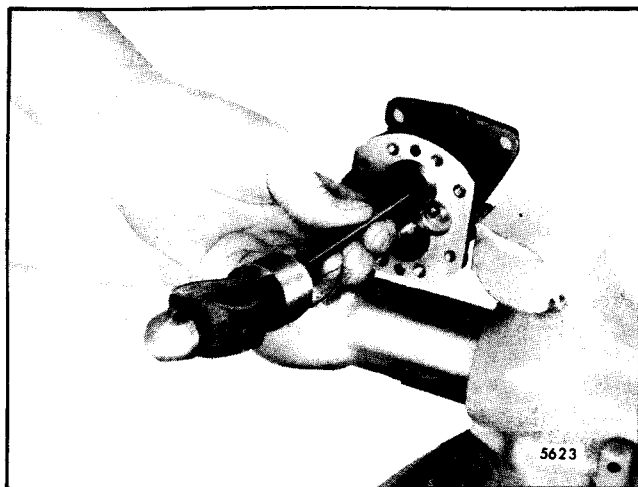

Fig. 5 - Removing Oil Seals using Tool J 1508-13
7. If the oil seals need replacing, remove them with oil seal remover J 1508-13 (Fig. 5). Clamp the pump body in a bench vise and tap the end of the tool with a hammer to remove the outer and inner seals.